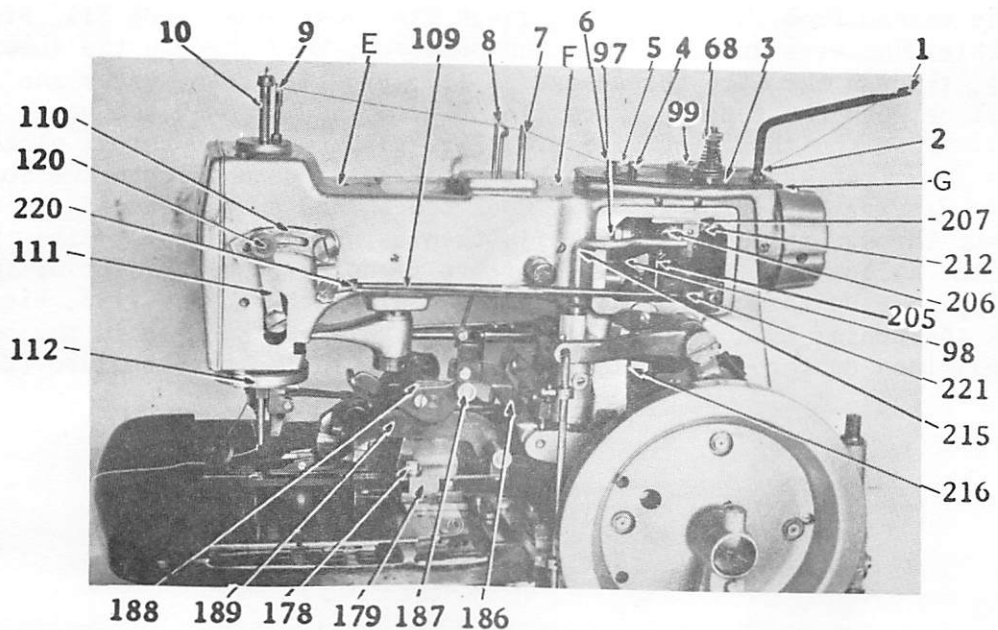

Fig. 3 Threading the Needle
To Thread the Needle (See Fig. 3)
The tension on the needle thread is regulated by the tension regulating thumb nut (68, Fig. 3). The tension on the needle thread should be sufficiently heavy to set the purl of the buttonhole on the underside of the work.
If a coarser stitch is desired for the eye end of the buttonhole, it can be obtained by increasing the eccentricity of the eccentric (97, Fig. 3) on the end of arm shaft gear. To increase the eccentricity, loosen the lock screw with a washer located opposite to the adjusting screw (98, Fig. 3), then turn the adjusting screw (98) counterclockwise. To decrease the eccentricity, turn the adjusting screw (98) clockwise. After adjusting the eccentric (97) as required, securely tighten the lock screw.